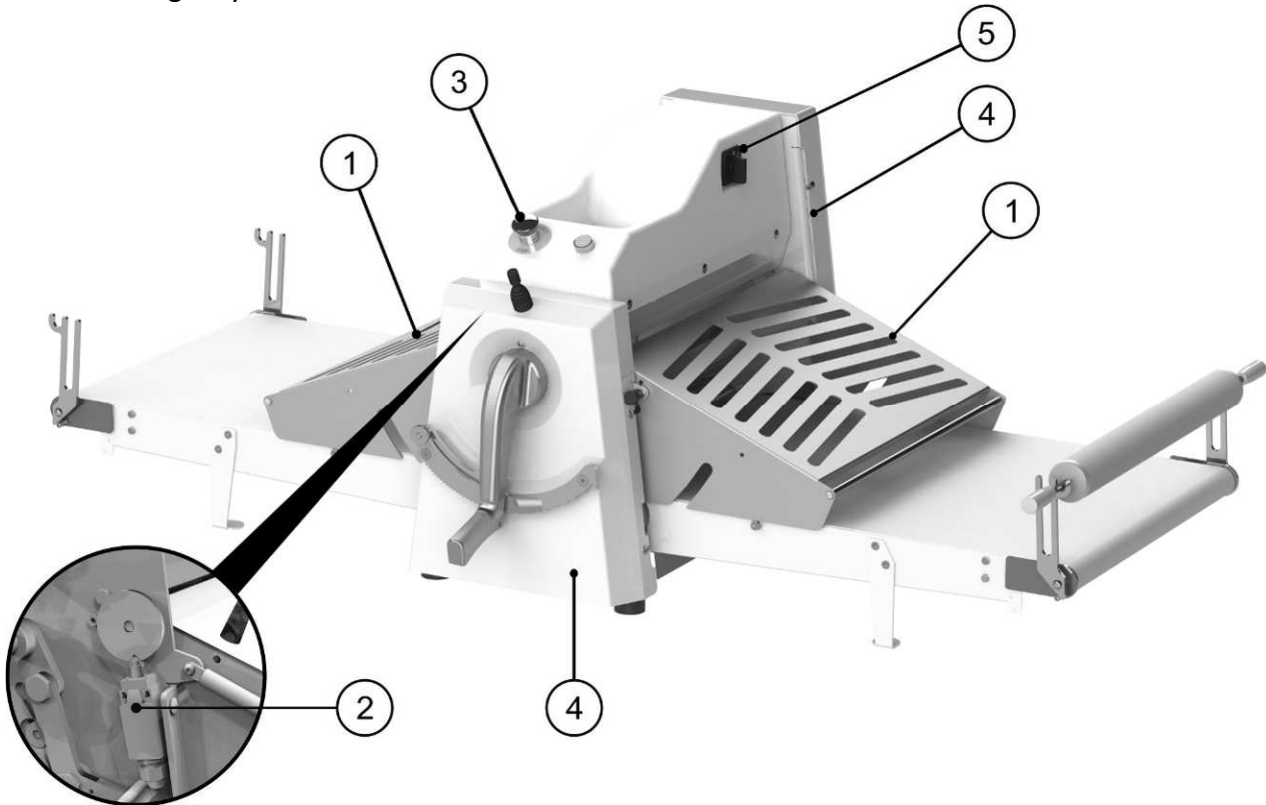

Figure 17
With reference to Figure 17 we hereby indicate the safety devices present on the machine:
**Fixed guards.** They are all the protections that are fastened to the machine and that require the use of at least one tool to remove them. With reference to Figure 17 we are mainly referring to the following items already described in this manual:
- Front and back transmission guards ref. 4
- Upper guard for electrical panel and control gear ref. 5
3. Check the interlocking devices of the mobile guards ref. 2 Figure 17 as provided for by the standard UNI EN 1674:2015, paragraph 5.2.1.1. Use a 65-mm high gauge block and slide it between the belt and the cylinder-shaped guard: the microswitch must trigger when the guard is lifted. The push-button that enables operation, ref. 5 should switch off: if not, call a technician to correctly adjust the microswitch and reset the machine to standard conditions.